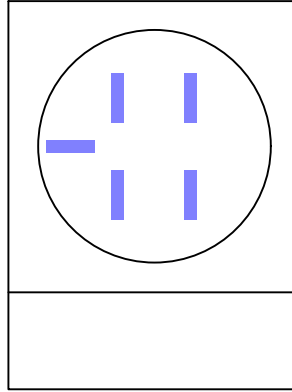

FIGURE 2
2. THE 5TH JAW OF FIGURE 2 MUST BE INSTALLED IN THE 9 O'CLOCK POSITION.